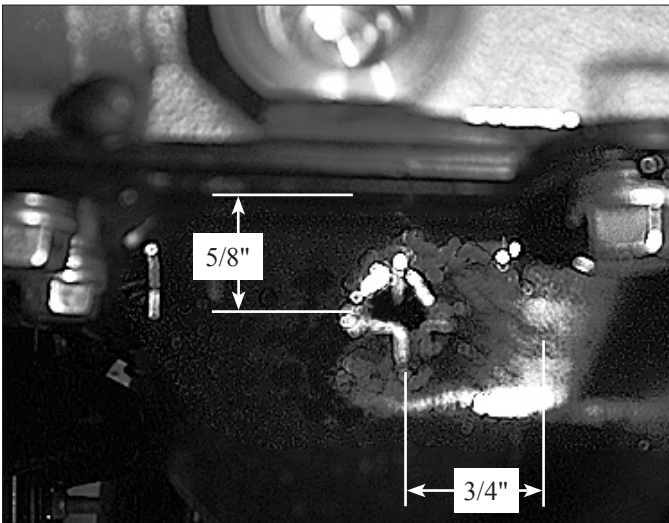

Fig. 3-a
- C. Mark the oil pan 5/8" down from the oil pan mounting rail on the driver's side of the engine. Measure forward 3/4" from the first bolt on the side of the oil pan. (See Fig. 3-a.)
- F. Thoroughly clean the threaded area. Apply a small amount of silicone sealer or teflon paste to the new threads. Apply more sealer to the 3/8"NPT hose fitting and secure in the hole. Make sure a seal is formed all around the fitting. (See Fig. 3-b.)